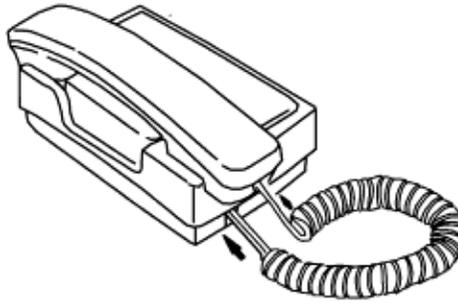

Fig. C.3.2
- (1) After having taken out the telephone set, telephone handset and curled cord from the carton box, connect them (Fig. C.3.2).